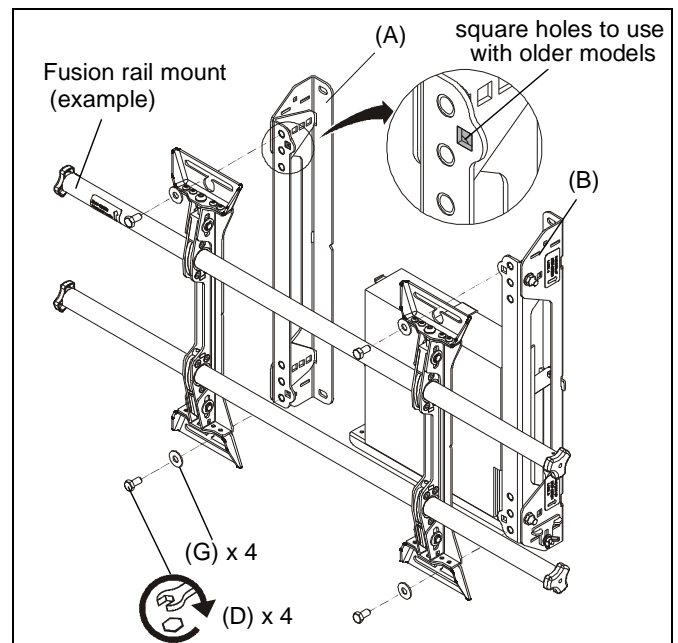

Figure 8
- Use four 5/16-18 x 5/8" hex head bolts (D) and four 5/16" washers (G) to secure Fusion rail mount to brackets (A and B). (See Figure 8)
NOTE: For some older Fusion models, four 5/16-18 X 3/4" round head carriage bolts (P) and four 5/16" hex nuts (Q) must be used to attach fusion mount to FCA113 using the square holes on FCA113 brackets. (See Figure 8)